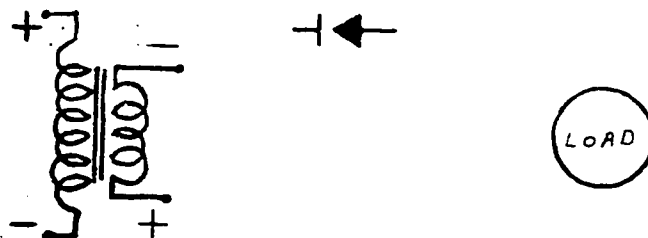

Figure 5
2. Draw lines on Figure 5 to indicate current flow thru circuit. Draw arrows to show direction of current flow.